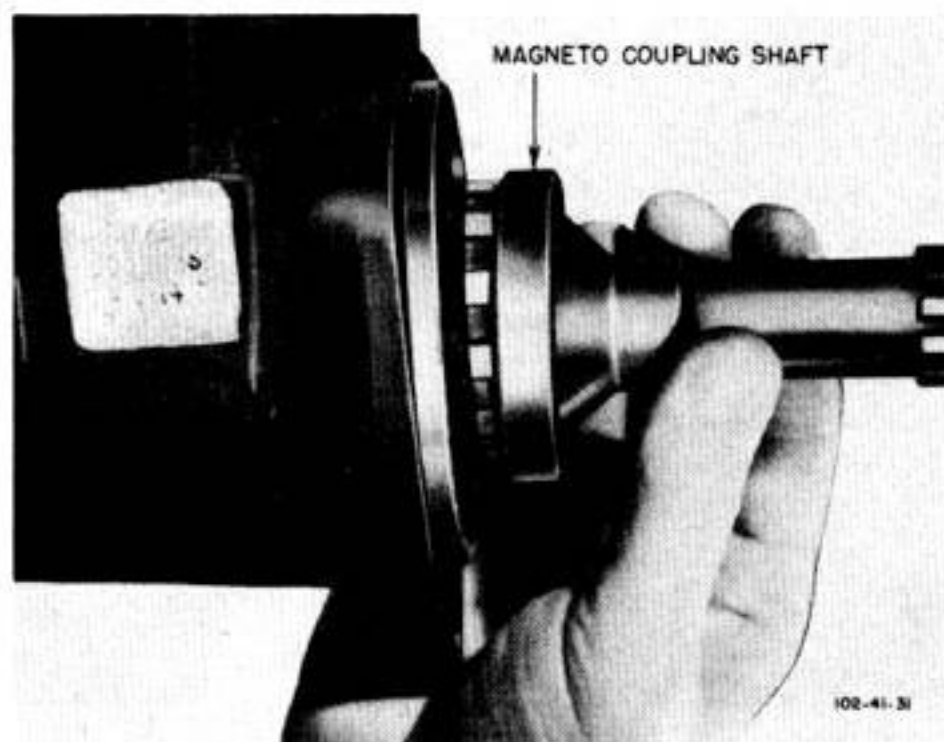

Figure 187—Installing Coupling Shaft to Magneto
a. Attach vernier coupling shaft to magneto (*figure 187*) and check that breaker housing is in the fully advanced position.
(2) If coupling remains with the magneto, turn coupling on the magneto shaft one spline in the direction that scribed line varied from the timing line when the engagement was previously obtained. (*See figure 187.*) (Approximately four splines on magneto end of coupling constitute one tooth on rotor.)